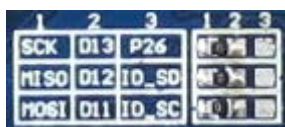

Figure 20: Configuring the jumpers D11, D12 and D13
- 2) The jumper pins D11, D12 and D13 on the module are used for configuring the ARPI600. And these pins should be shorted by the 0Ω resistances, as Figure 20 shows.